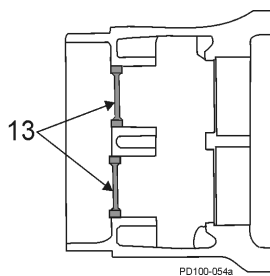

Figure 45 - Remove Rear Oil Seals
- Press out and discard both rear oil seals in the gear case (Figure 45, item 13).